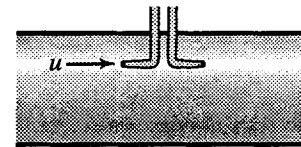

Figure P11.11
11.12 The pitometers in Fig. P11.11 are connected to a mercury manometer, which reads 120 mm. The velocity of flowing carbon tetrachloride ($s = 1.59$) is known to be 2.76 m/s. What is C_1 for this instrument?